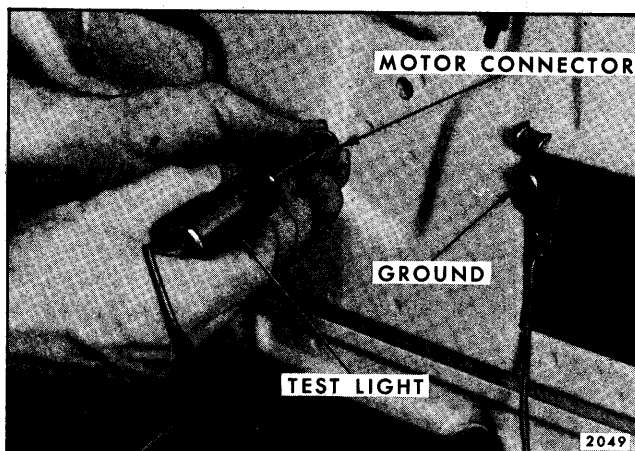

Fig. 16-13—Checking Circuit Between Switch and Motor
3. With test light, check for current at terminal being tested. If tester does not light, there is an open or short circuit in the harness between the control switch and motor connector (See Fig. 16-13).
3. With a test light, check for current at the corresponding terminal at the in-line motor connector. If tester does not light, there is an open or short circuit between control switch and motor connector (See Fig. 16-13).